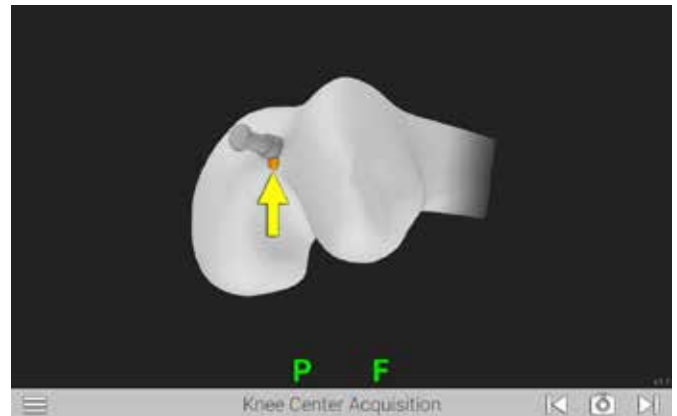

Figure 16
The Knee Center Acquisition screen is displayed. Position the tip of the Probe Tracker (P) in the deepest point of the intercondylar notch (Figure 16). In most cases the posterior aspect of the previously drilled intra-medullary hole is generally used as this reference point. Press the Forward button and the system will automatically advance to the next screen.